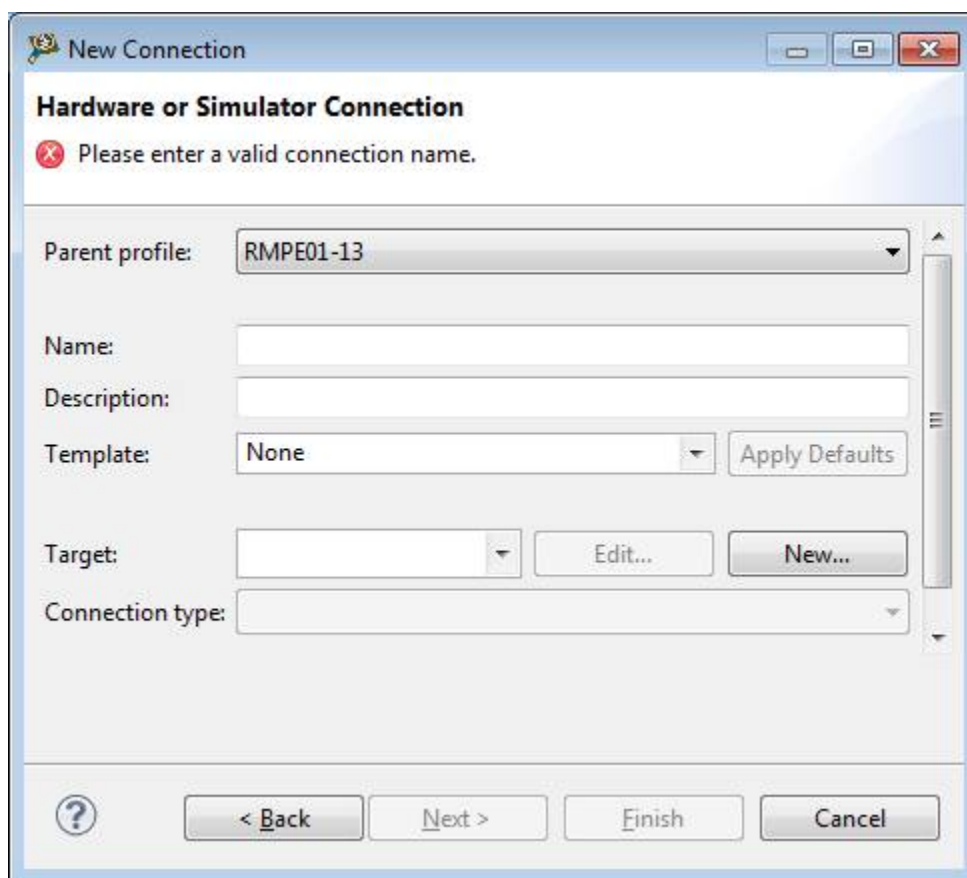

Figure A-4. Naming new CodeWarrior connection
5. Enter a valid connection name, see Figure A-4.
6. Click **New...**, see Figure A-4.